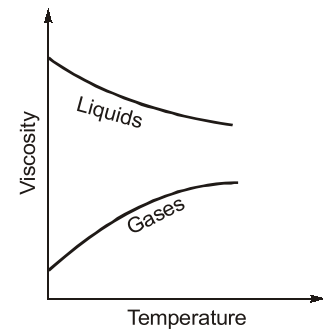

Figure 1.2 Variation of Viscosity with Temperature
- Increase in temperature causes a decrease in the viscosity of a liquid, whereas viscosity of gases increases with temperature growth (Figure 1.2).